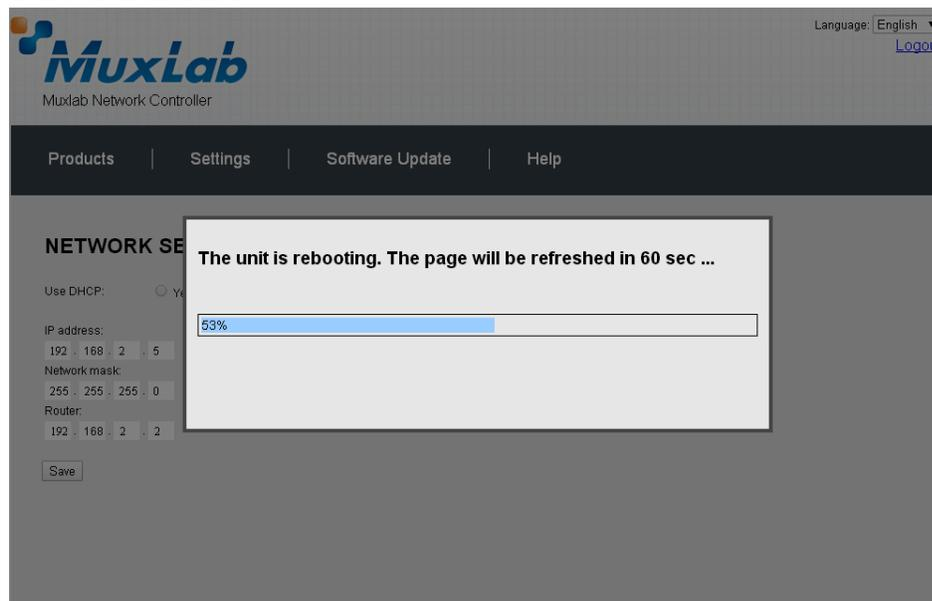

Figure 16: MNC Reboot Screen
16. Click on **Save**. The MNC will reboot (Figure 16).